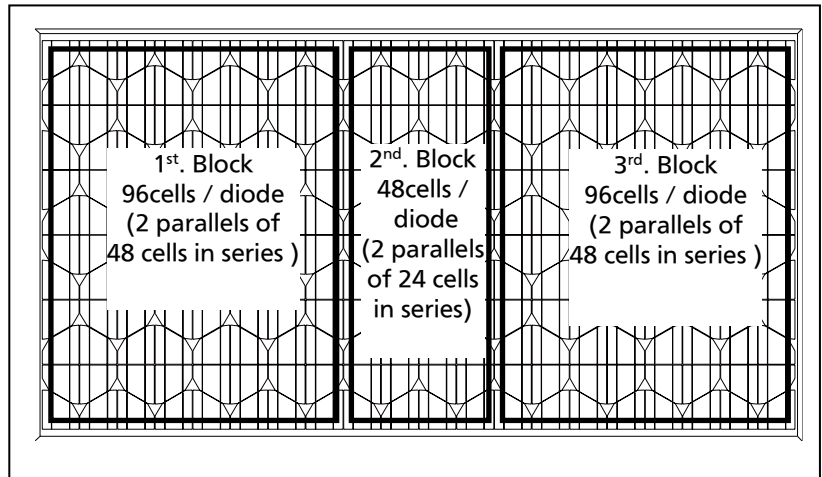

Figure 4-2: Number of series cells per bypass diode
- Specifications of bypass diode for VBHHxxxAE series are as follows; Number of bypass diode: 3 diodes, Number of series cells per bypass diode: 96 cells / diode (1st and 3rd block, 2 parallels of 48 cells series), 48 cells / diode (2nd block, 2 parallels of 24 cells series) (See Figure 4-2).